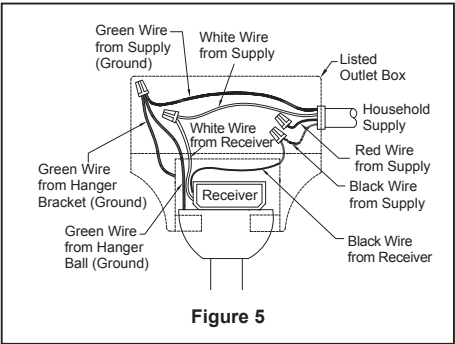

Figure 5
4. After connections have been made, the wires should be spread apart with the grounded conductor and the equipment-grounding conductor on one side of the outlet box and the ungrounded conductor on the other side of the outlet box, then turn leads upward and carefully push leads into the outlet box, with the white and green leads to one side of the box and the black leads to the other side. (Figure 5)